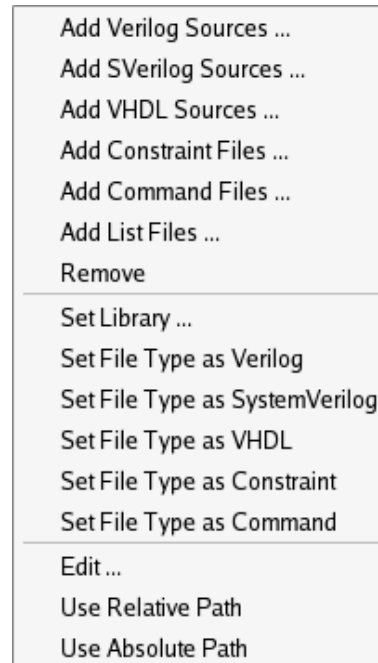

Figure 17: Contextual menu for an RTL source file
In the contextual menu for an RTL source file (see Figure 17), some additional items are available:
- If the type of a source file (Verilog, SystemVerilog or VHDL) is not correct, you can change it with the **Set File Type as <file type>** item which can be seen in Figure 17. The file type icon in front of the file name is automatically changed.
- When the content of an RTL source file has to be modified, you can edit the file with vi editor from **zCui** (**Edit...** item in the contextual menu, Figure 17). The editor can be changed in the **Preferences** → **Compiler** panel, as described in section 4.4.1.